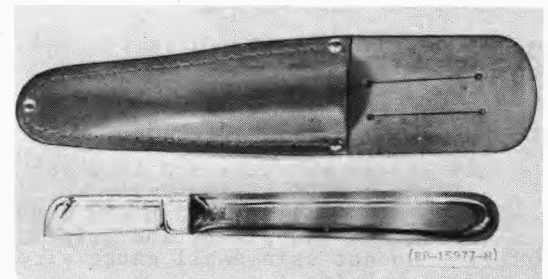

FIG. 4 R-2761 SKINNING KNIFE AND SHEATH (PAR. 4.231)
4.231 When the insulation cannot be readily removed with the R-2884 stripper, as in close locations, use the R-2761 knife. See Figure 4 and proceed as follows: